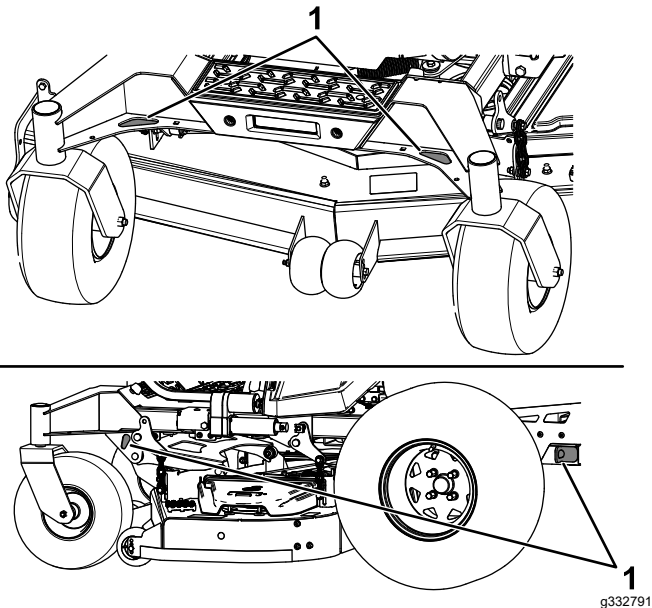

Figure 47
6. Tie down the machine near the front caster wheels and the rear frame with straps, chains, cable, or ropes (Figure 47). Refer to local regulations for tie-down requirements.